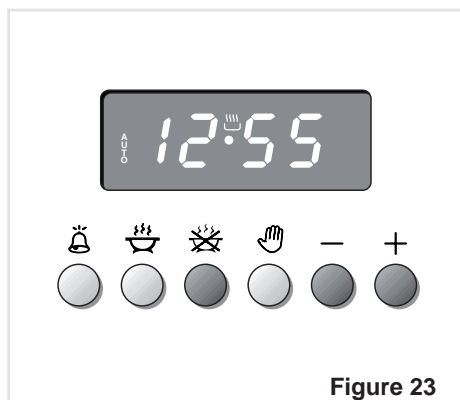

Figure 23
2. Set the end of the cooking time by pushing the  button and the  button to advance, or  to go backwards if you have passed the desired time (Fig. 23).